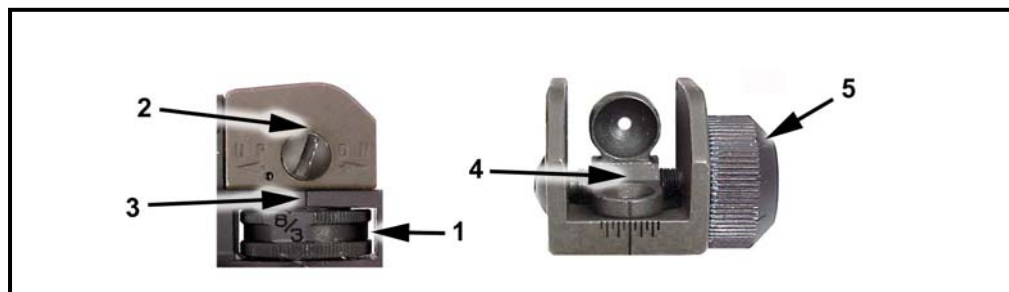

Figure 2-6. M16A2/A3 rifle battlesight zero.
(2) **Battlesight Zero the M16A2/A3.** If necessary, the soldier should battlesight zero the weapon as follows (Figure 2-6):